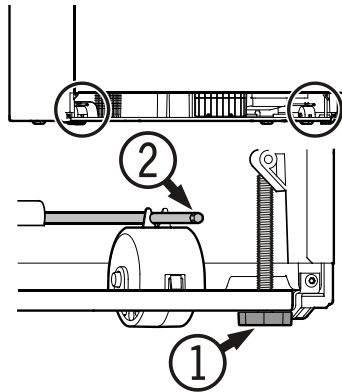

Figure 18
## Leveling the Appliance - Figure 18
To prevent the appliance from tipping forward the leveling feet ① (Figure 18) must have contact with the floor.